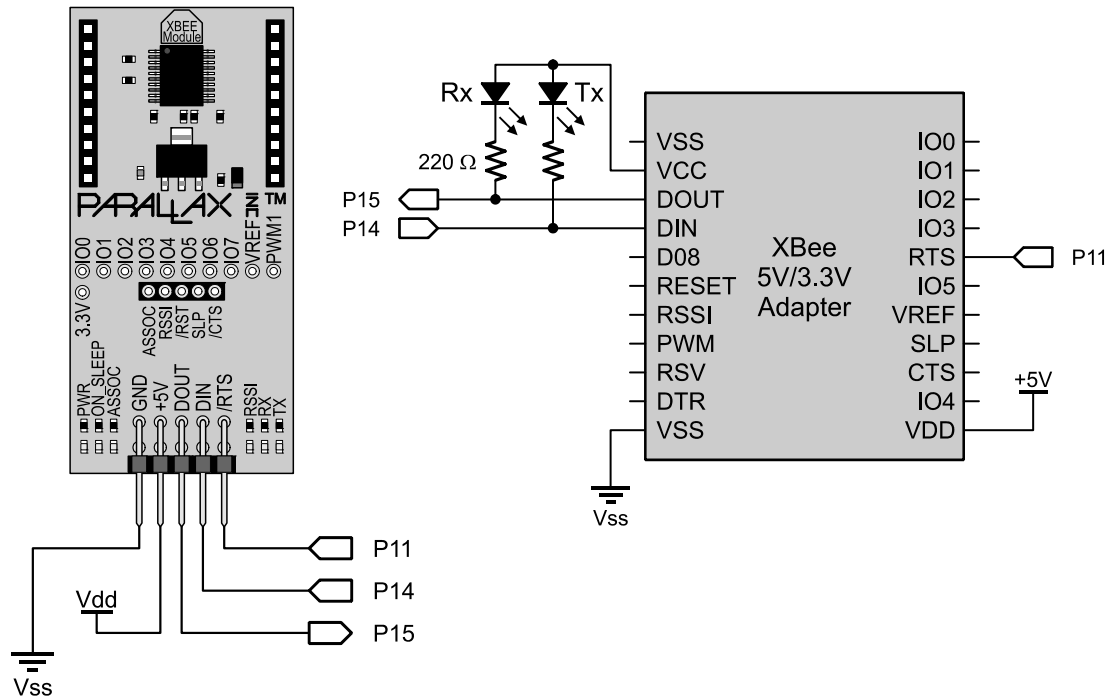

Figure 4-2: XBee SIP (right) or 5V/3.3V (left) Adapter Connection to BASIC Stamp
- (1) XBee USB Adapter Board & cable
- (2) 220 Ω resistors and (2) LEDs (optional)
- ✓ Connect the BASIC Stamp to an XBee Adapter Board using one of the options shown in Figure 4-2.. LEDs and resistors are optional but are useful. Note that the DOUT and DIN pins are not jumpered together.